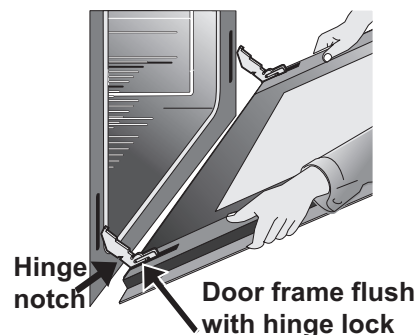

Figure 38: Replacement and location of hinge arm and roller pin
4. Pull the bottom of the door toward you while rotating the top of the door toward the appliance to completely disengage the hinge levers (Figure 38).
1. Firmly grasp both sides of oven door along the door sides. Do not use the oven door handle (Figure 38).
2. Hold the oven door at the same angle as the removal position. Carefully insert the hinge levers into the oven frame until you feel the hinge levers are seated into the hinge notches. The hinge arms must be fully seated into the hinge notches before the oven door can be fully opened. (Figure 38).